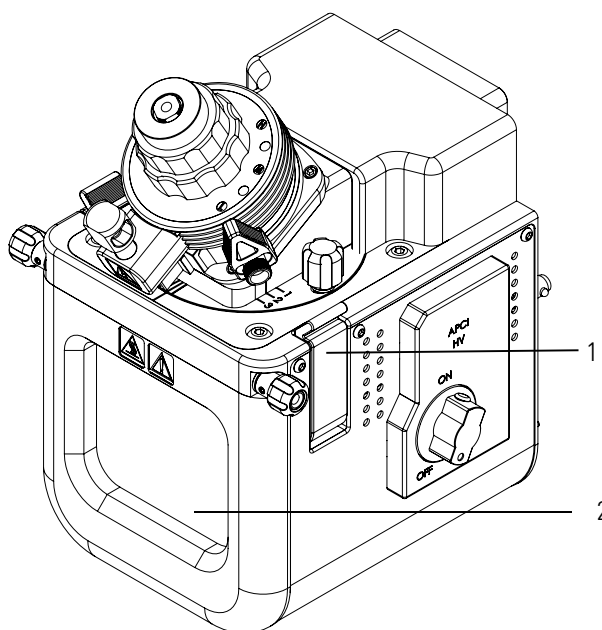

Figure 8-10. OptaMax NG API source (front view)
2. Rotate the ion source housing locking levers 90 degrees upwards to lock the ion source housing onto the ion source mount assembly. See Figure 8-10.